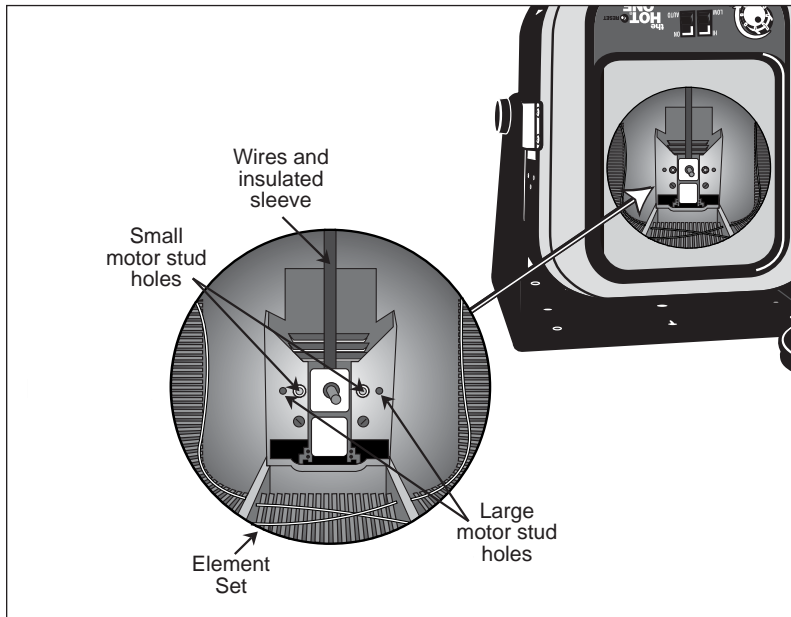

Figure 4
9. Insert new motor with wires and insulated sleeve pointing up. Because heater is upside down, wires and insulated sleeve should point to the bottom of the heater (Figure 4). The studs will come through one of the two sets of the slotted outer holes, depending on the size of the motor. Be sure the studs are centered in the slotted holes and secure the new motor studs tightly with nuts provided (motor kit part #410209), or reuse old ones.